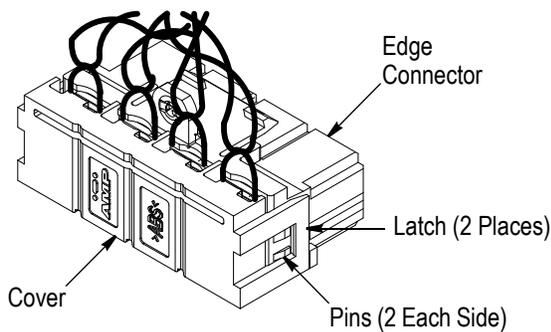

Figure 5
3. Mate the cover with the edge connector as shown in Figure 5. Make sure the latches of the cover enter into all of the pins of the edge connector. Listen for a double click, which indicates correct connection.